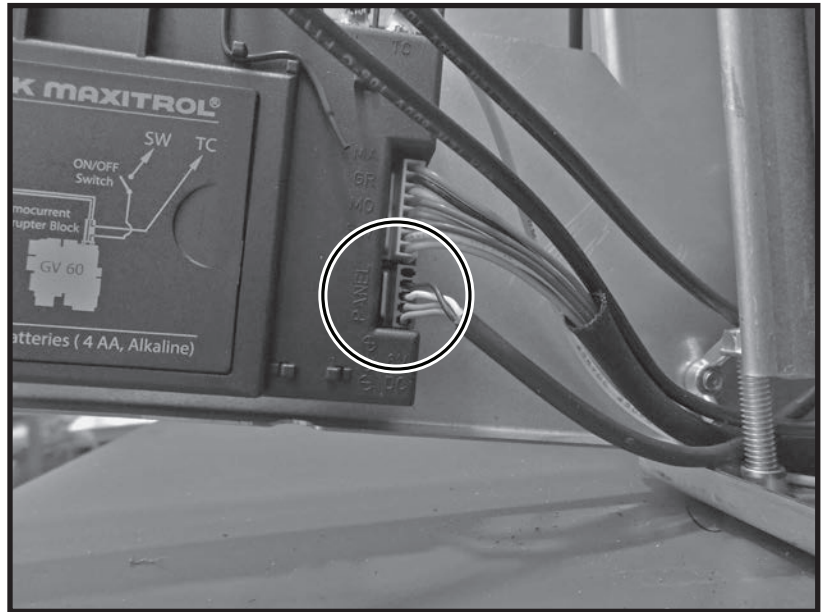

Figure 86: Switch connector at control module.
1. Check that the ON/OFF Switch cable is plugged into the Maxitrol module as shown in Figure 86.